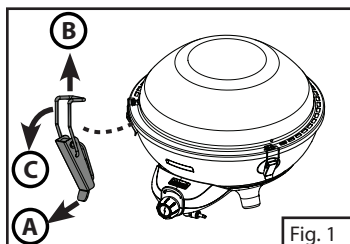

Fig. 1
2. Unlock the latches by following step sequence A, B, C, then remove wok accessory (Fig. 1).